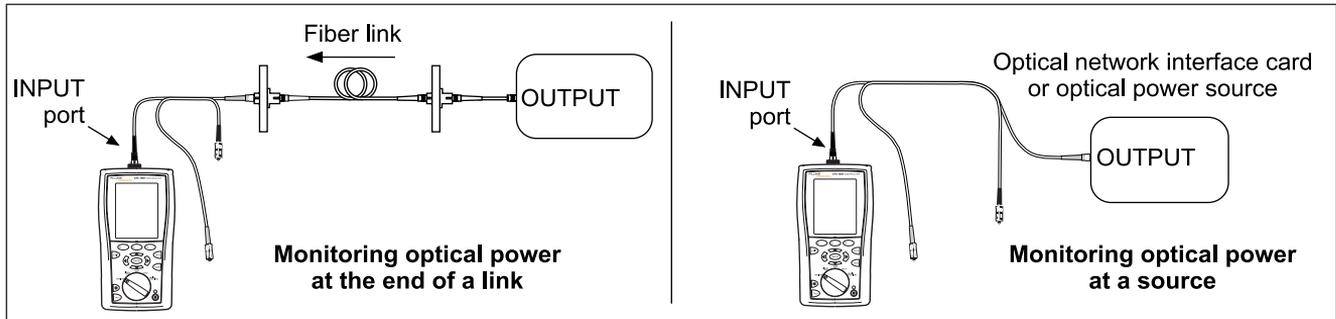

Figure 6-27. Connections for Monitoring Optical Power (MONITOR mode)
- 2 Use the reference test cord to connect the source to the tester's input port, as shown in Figure 6-27.